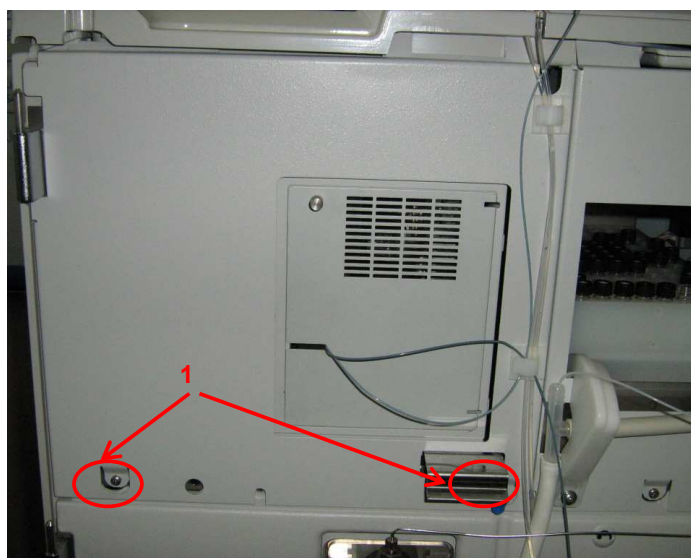

Figure 4: Top left hand panel of a 940-Series HPLC
5. The preparative manual injector will be installed on the top left hand quadrant of the 940-LC instrument (Figure 4).
6. Remove the two screws circled (1) in *Figure 4*. These are the only screws that attach this panel to the instrument. A close up of the screw holes with the screws removed is shown in *Figure 5*.